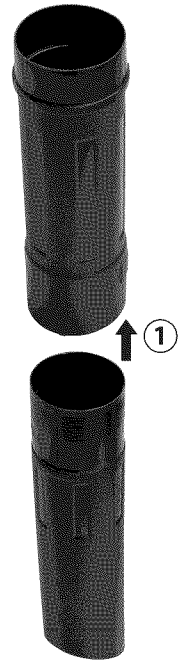

Figure 3-8: Connecting lower and upper vacuum tube together
3. Connect the lower and upper vacuum tubes together (see Figure 3-8). Align the ridge on the bottom tube with the channel on the top tube. Press together until you hear a “snap”.